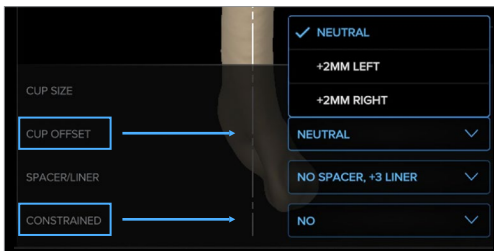

Figure 36. Suture cup offset selection
- Select the offset of the suture cup as shown in Figure 36.